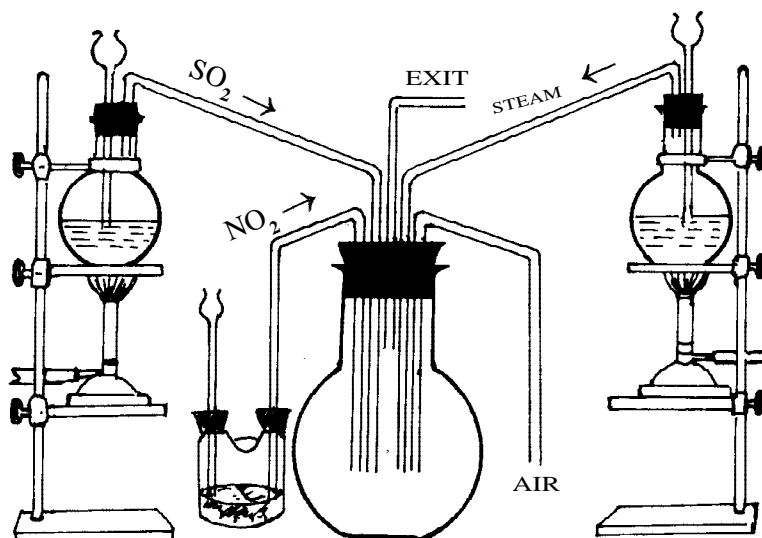

Fig. 8.7 Preparation of  $\text{H}_2\text{SO}_4$
- (iii) **Description :** A large flask fitted with a rubber cork through which five glass tubes are inserted is taken. Four of these tubes reach near the bottom of the flask, while the fifth is a short one and acts as an exit tube. (Fig.8.7) Air is introduced through the first tube into the flask and then nitric oxide is passed through the second tube by connecting it with a Woulfe's bottle in which the gas is generated by the action of moderate concentrated nitric acid on copper till red fumes are formed. Sulphur dioxide is prepared in another flask by the action of conc.  $\text{H}_2\text{SO}_4$  on copper and the gas is passed through the third tube. The red fumes, first formed ( $\text{NO}_2$ ) disappears. At this stage steam is passed through the fourth tube. Steam reacts with  $\text{SO}_3$  producing sulphuric acid which collects at the bottom of the flask as an oily liquid.